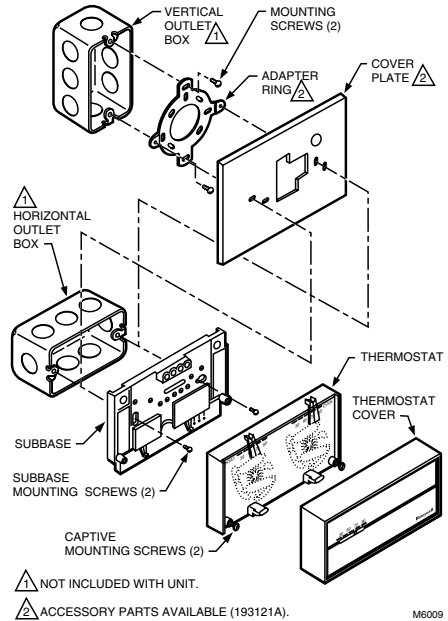

Fig. 1. Installation on vertical or horizontal outlet box.
3. When mounting the subbase on a vertical outlet box, install an adapter ring with the two screws provided with the adapter assembly. See Fig. 1.
- 5 Note the tabs along the top inside edge of the thermostat base. The tabs fit into the subbase notches. Mount the thermostat base on the subbase and tighten the captive mounting screws. See Fig. 1.